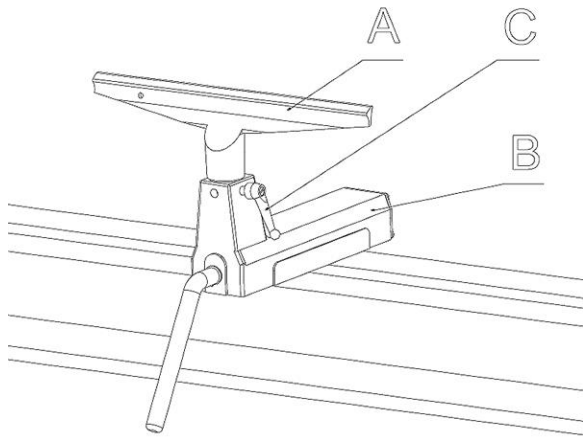

Fig 3.
1. Secure tool rest (A, Fig. 3) to tool rest body (B, Fig. 3) by tightening handle (C, Fig. 3).